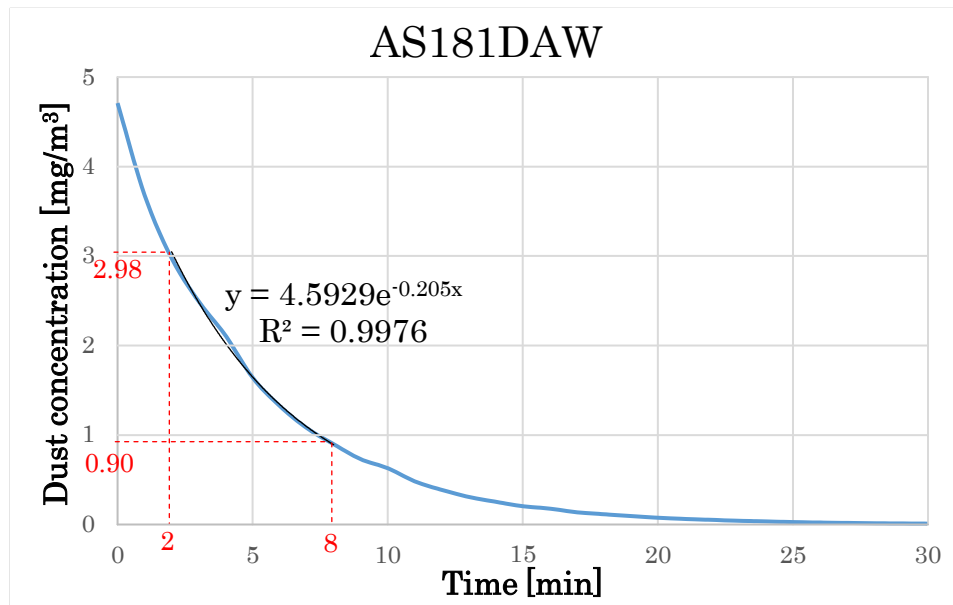

Fig. 4 Changes in dust concentration in chamber during natural decay period (AS181DAW)
* The approximate expression in Fig. 4 was derived using the value in the section until the concentration at 2 minutes after the start of the air cleaner operation became 1/3 in accordance with the standard of JEM 1467.